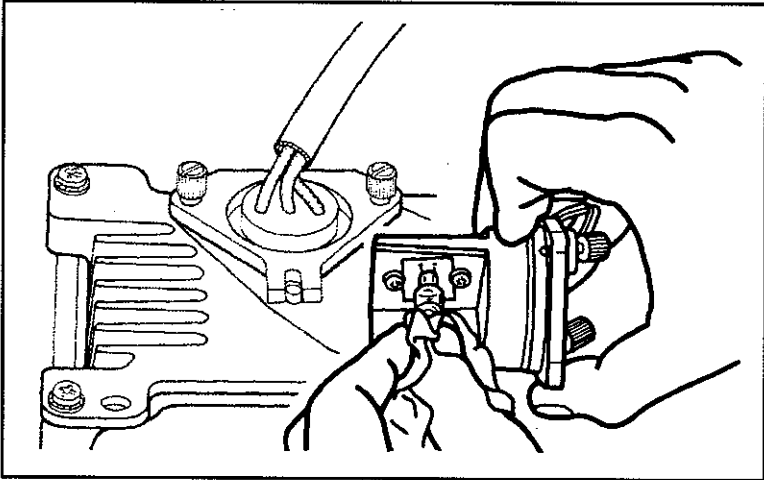

Figure 12-10.
- Carefully remove the old source by pulling straight out. Unpackage the new source, being careful not to touch the glass envelope on the source. Hold the source with a tissue or Kim-Wipe and insert it into the source mount in the same location as the old source. See Figure 12-10.